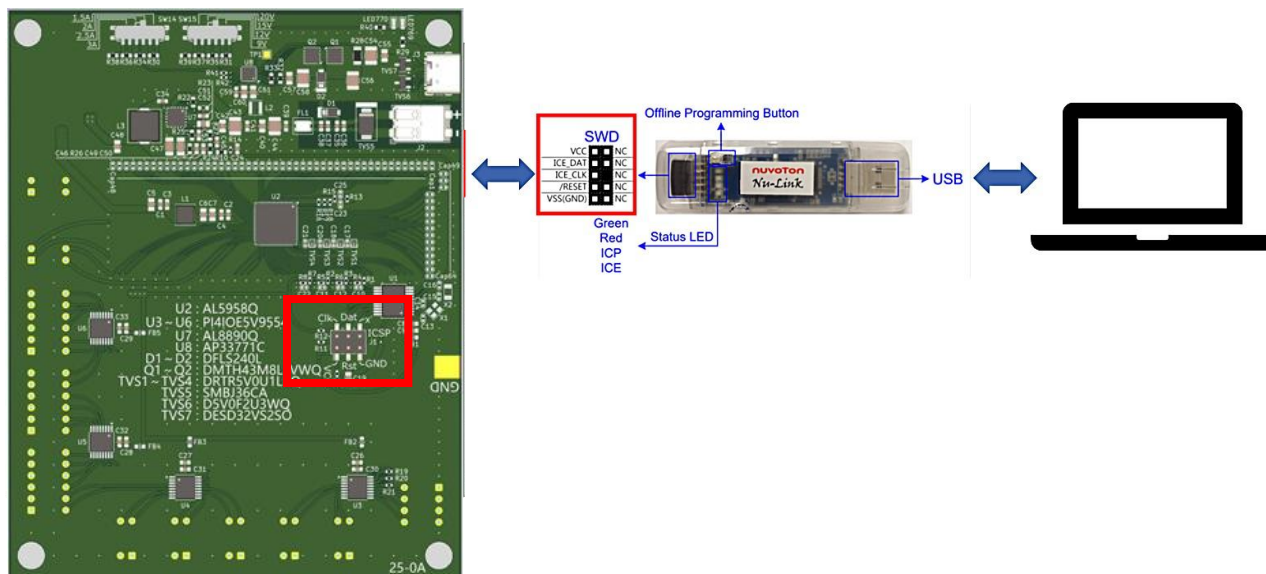

Figure 5. Hardware Connections
3.2 Ensure that all connections between the Nu-Link and the universal board are accurate and secure, as shown in Figure 5.